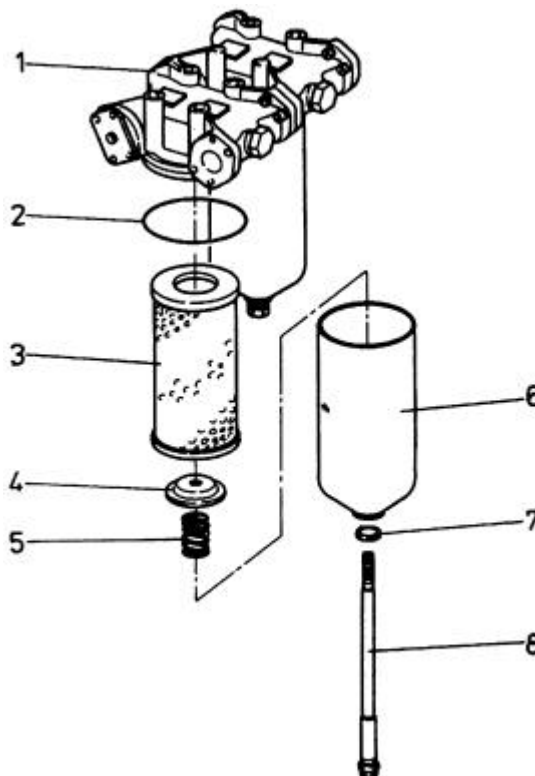

Fig. 5.55. Transmission and torque converter filters
In Fig. 5.55 are shown two filters visible in cutout of right wall of the rear frame.
1. Remove all the dirt from around filter base 1, Fig. 5.55 and case 6. Both filters have identical design. Each element is changed in the same manner.